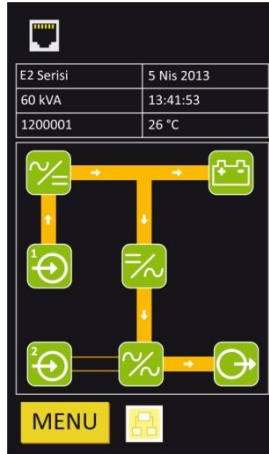

Figure-48 Normal Mode
- When the inverter unit is ready, the UPS will switch to online mode. Mimic diagram will be seen as figure-48.